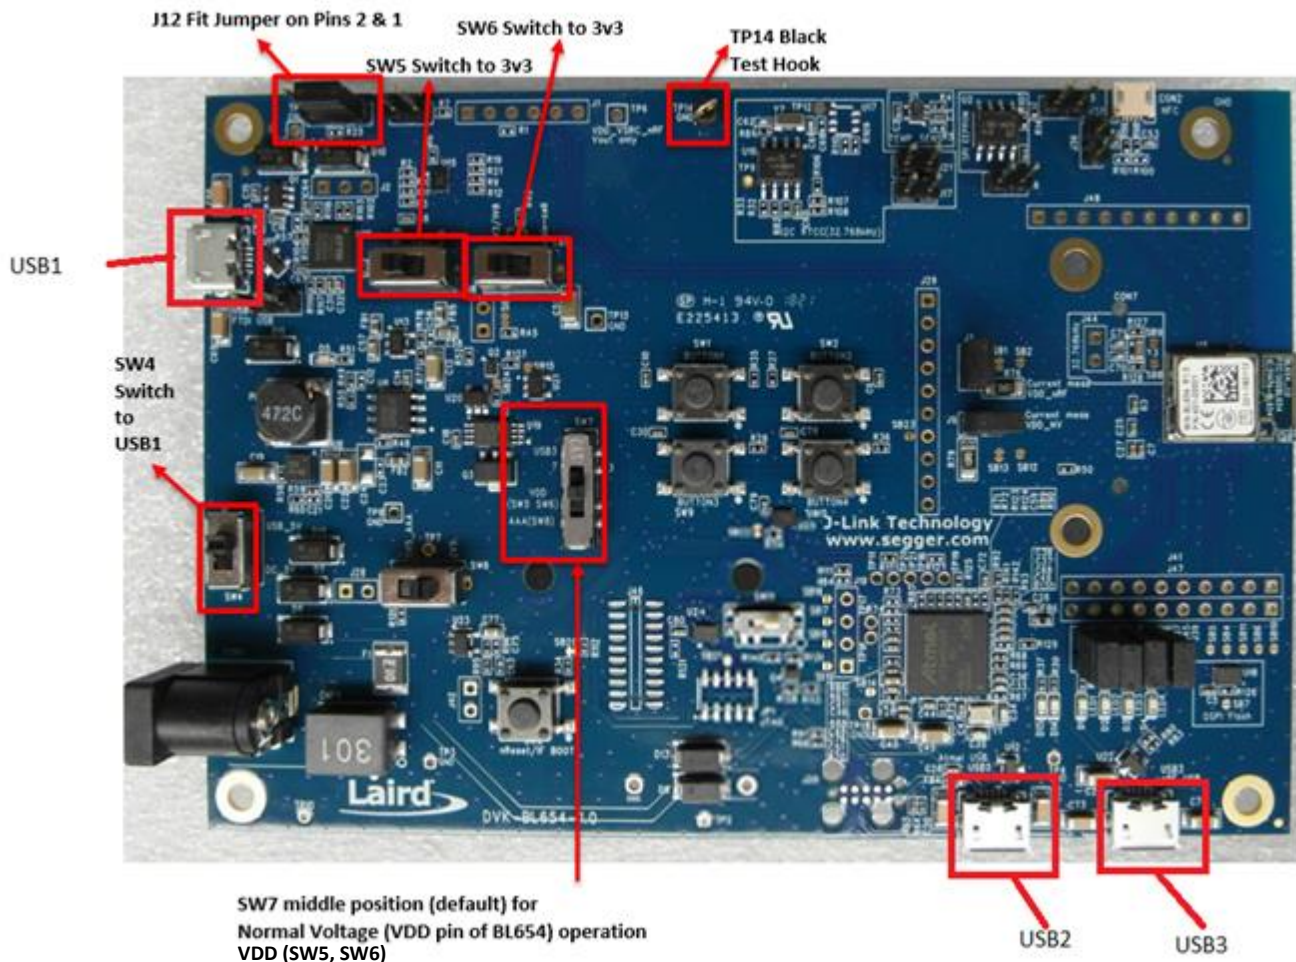

Figure 1: BL654 development board
- Set SW7 in the middle position as shown on the Figure 1
3. If not already connected, attach the module to your PC's serial port. If you are using the DVK-BL654, ensure that you are connected to the board's USB1 connection (see Figure 1).